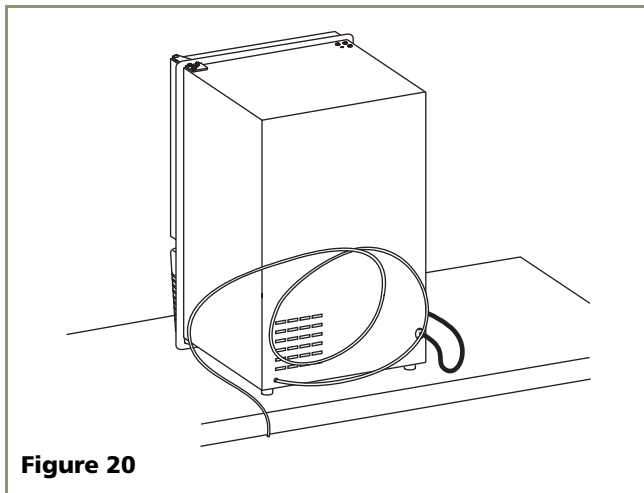

Figure 20
- Connect sufficient tubing to the unit so that tubing may be looped, allowing the unit to be removed for cleaning and servicing (see **Figure 20**). However, make certain that the tubing is not pinched or damaged during installation.
Route the water supply line through the unit so it does not come into contact with any internal components other than the solenoid valve. See **Figure 20**. Normal operation creates some vibration. A water supply line contacting an internal component or cabinet wall can cause excessive noise during operation or damage to the line.
4. For recessed installations, allow extra water supply line length to provide slack for easy removal from the recessed area (see **Figure 20**). This will also safeguard against kinking the line.